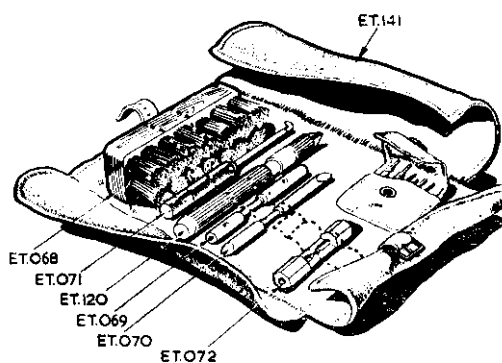

Fig. 26
- i. Cleaning kit ET.141 in a canvas hold-all as shown in Fig. 26 with respective tools tabulated as referred to in the text.